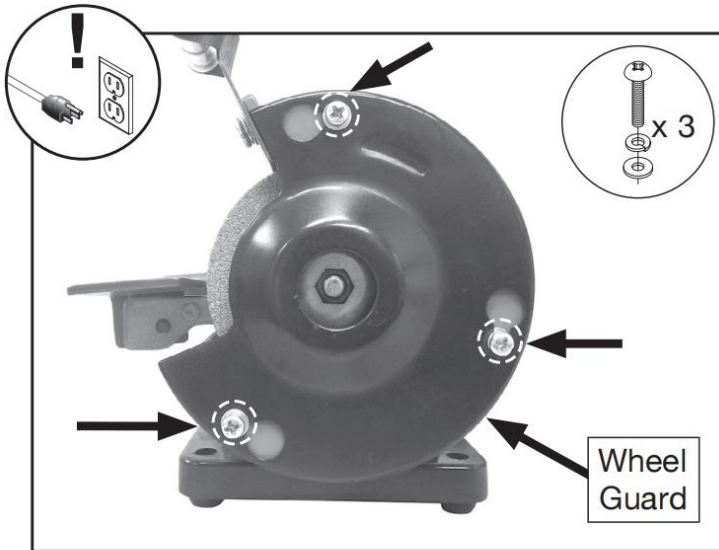

Figure 14. Fasteners securing wheel guard.
2. To remove outer guard, loosen (3) M4-.7 x 10 Phillips head screws with captive flat and lock washers holding wheel guard in place (see **Figure 14**).
3. Remove wheel guard (see **Figure 14**) by twisting guard clockwise until screws align with access holes.
2. Loosen (3) M4-.7 X 10 Phillips head screws with captive flat and lock washers holding wheel guard in place (see **Figure 14** on **Page 19**).
3. Remove outer guard (see **Figure 14** on **Page 19**).